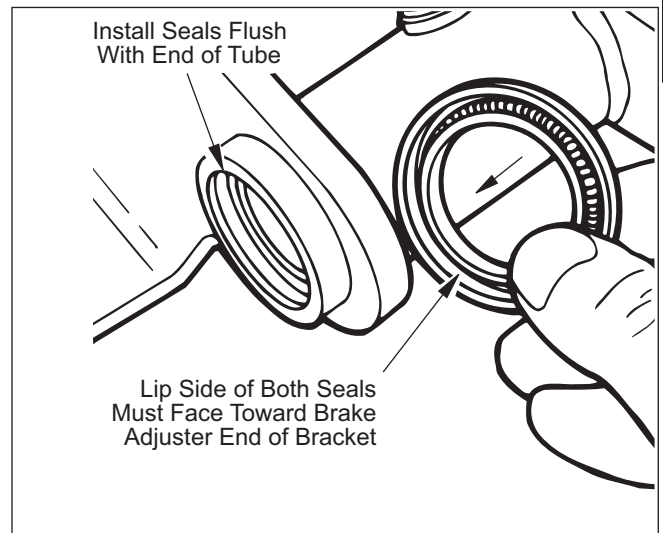

Figure 45. Camshaft Bushing Installation
5. Install new grease seals with a suitable piloted driver so seals are flush with end of air chamber bracket tube. Refer to Figure 45.